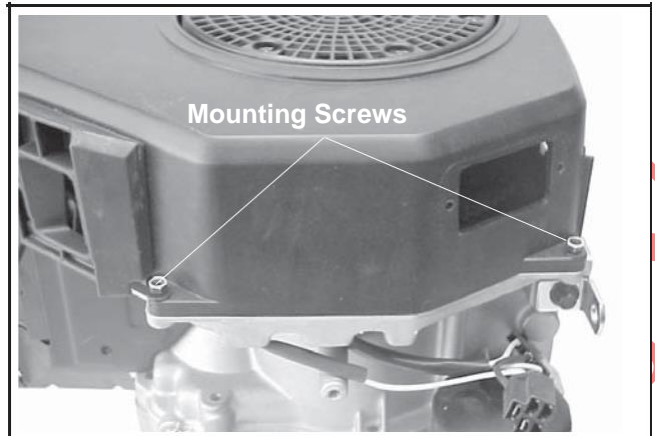

Figure 11-53. Installing Blower Housing.
5. Install the grommet around the high tension lead (metal blower housings only). Insert the grommet into the slot in the end of the blower housing. Plastic blower housings have a formed slot to contain the lead. Install the blower housing and secure with the mounting screws. See Figures 11-53 and 11-54.